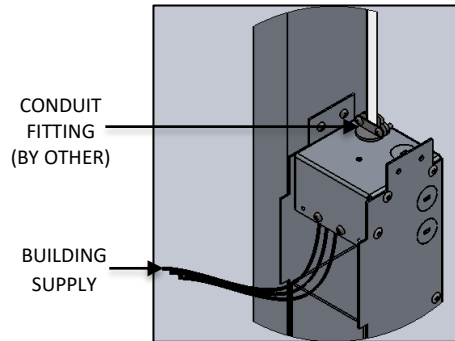

FIG. 15 - DETAIL SHOWING
6. Attach appropriate 1/2" CONDUIT FITTING to knockouts and run building supply connections into the box. make sure to pull the wires out through the square opening as shown below in FIG. 15 & 16.